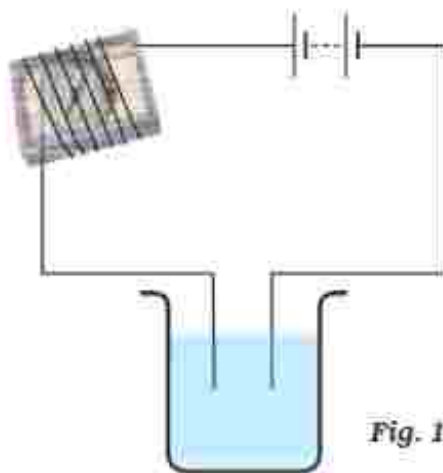

Fig. 11.9
- Name three liquids, which when tested in the manner shown in Fig. 11.9, may cause the magnetic needle to deflect.